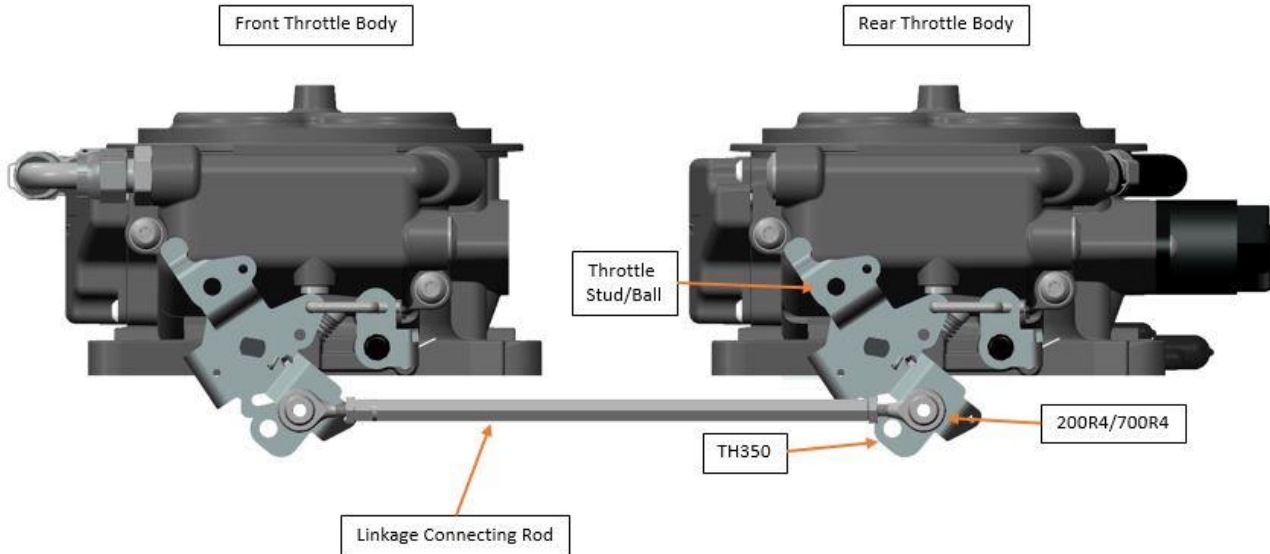

Figure 3
3. Reconnect the throttle and transmission kick-down linkage to the rearward throttle body (if applicable). Be sure to check for any binding conditions and correct before proceeding. Poorly routed throttle cables & linkages can cause throttle pedal issues. See **Figure 3** for correct linkage placement.